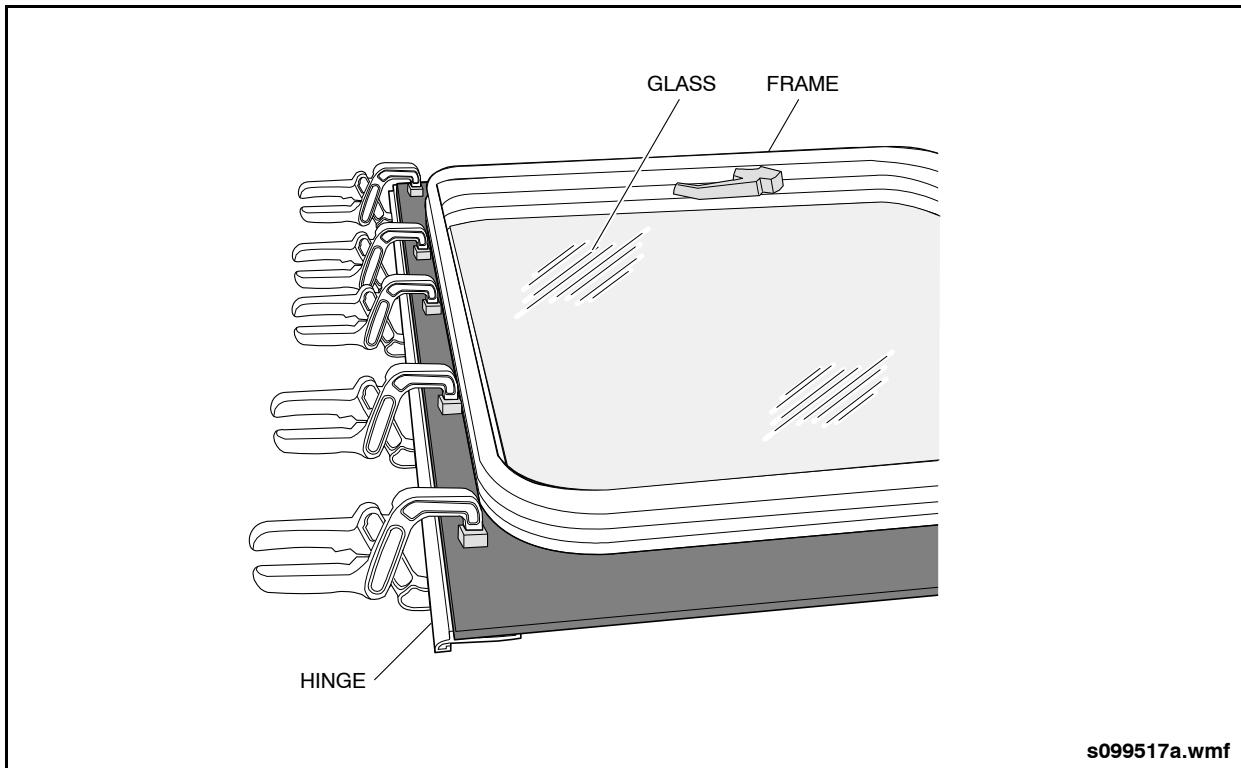

Fig. 14-21: Male Hinge Clamping
7. Clamp the male hinge into place. The clamps must be placed so that the force of the clamps does not slide the hinge away from the glass. See "Fig. 14-21: Male Hinge Clamping" on page 24.